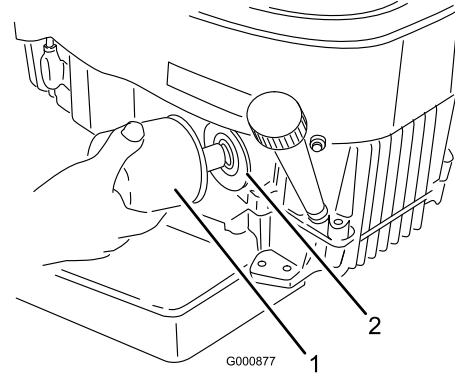

Figure 26
2. Remove the old filter (Figure 26).
4. Install the replacement oil filter to the adapter. Turn the oil filter clockwise until the rubber gasket contacts the filter adapter, then tighten the filter an additional 3/4 turn (Figure 26).